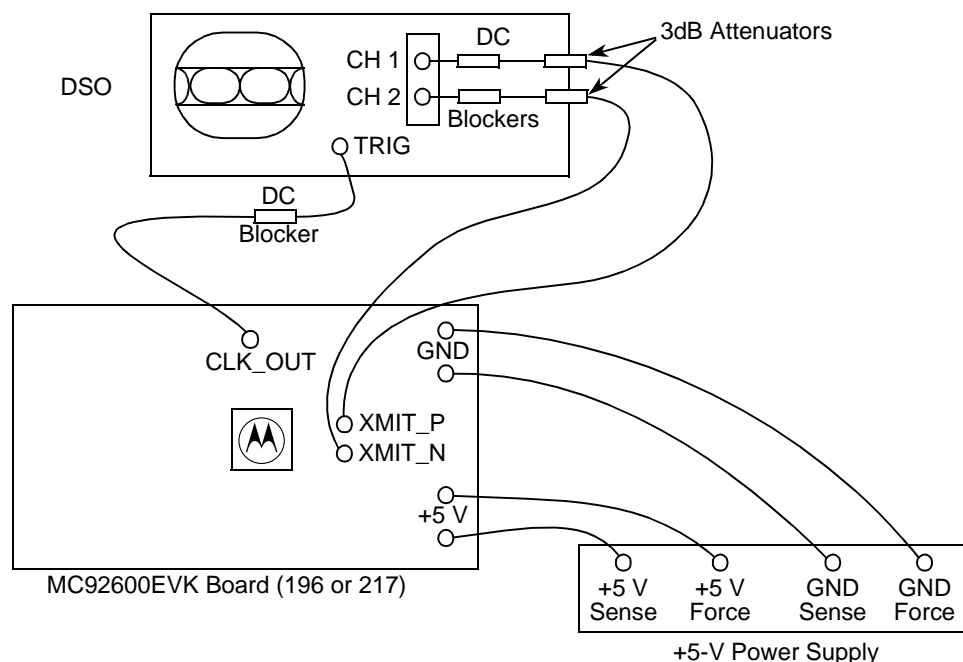

Figure 4-1. Data-Eye Observation Setup
1. Connect the test equipment as shown in Figure 4-1.
2. Configure the dip switches SW1 and SW2 as shown in Figure 4-1. Note that all unconnected serial transmitter outputs should be terminated to 50 Ω . This termination can be done by connecting the serial transmitter outputs to the serial receiver inputs or to 50- Ω SMA terminations.